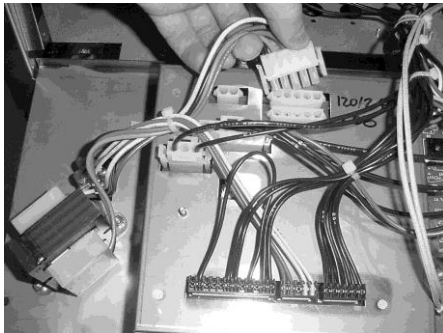

Figure 2-26
3. Remove the two wire connectors to disconnect transformer From panel. Figure 2-26.